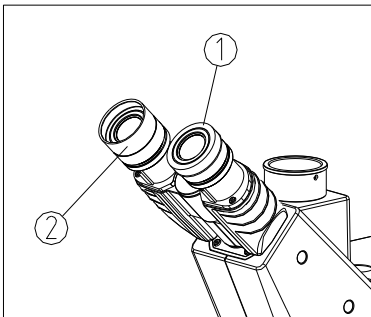

Fig. 21
(1) If the user wears glasses, turn over the eye-cap ①. It can prevent the glasses touching the eyepiece and avoid damaging the glasses and the eyepiece. (See Fig.21)
(2) If the user doesn't wear glasses, open the eye-cap ②. It can prevent stray light disturbing the observation.